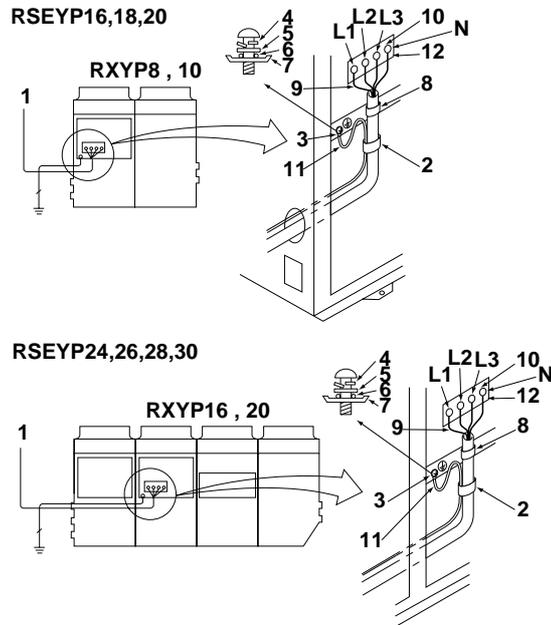

Fig. 17 (V2488)
- Make sure to connect the power source wire to the power source terminal block and to clamp it as shown in figure 17, chapter “Field line connection”.